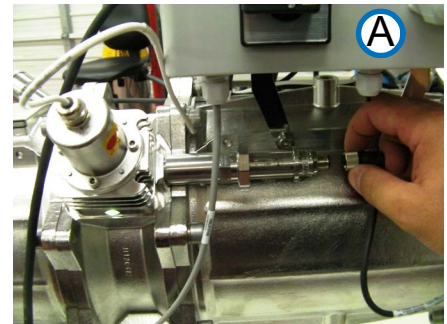

Figure 10-28: Removing connector A (Generic View)
- Step 1.** To disconnect the harness connector (shown in view A, **Figure 10-28**), unscrew the sensor's threaded locking nut.